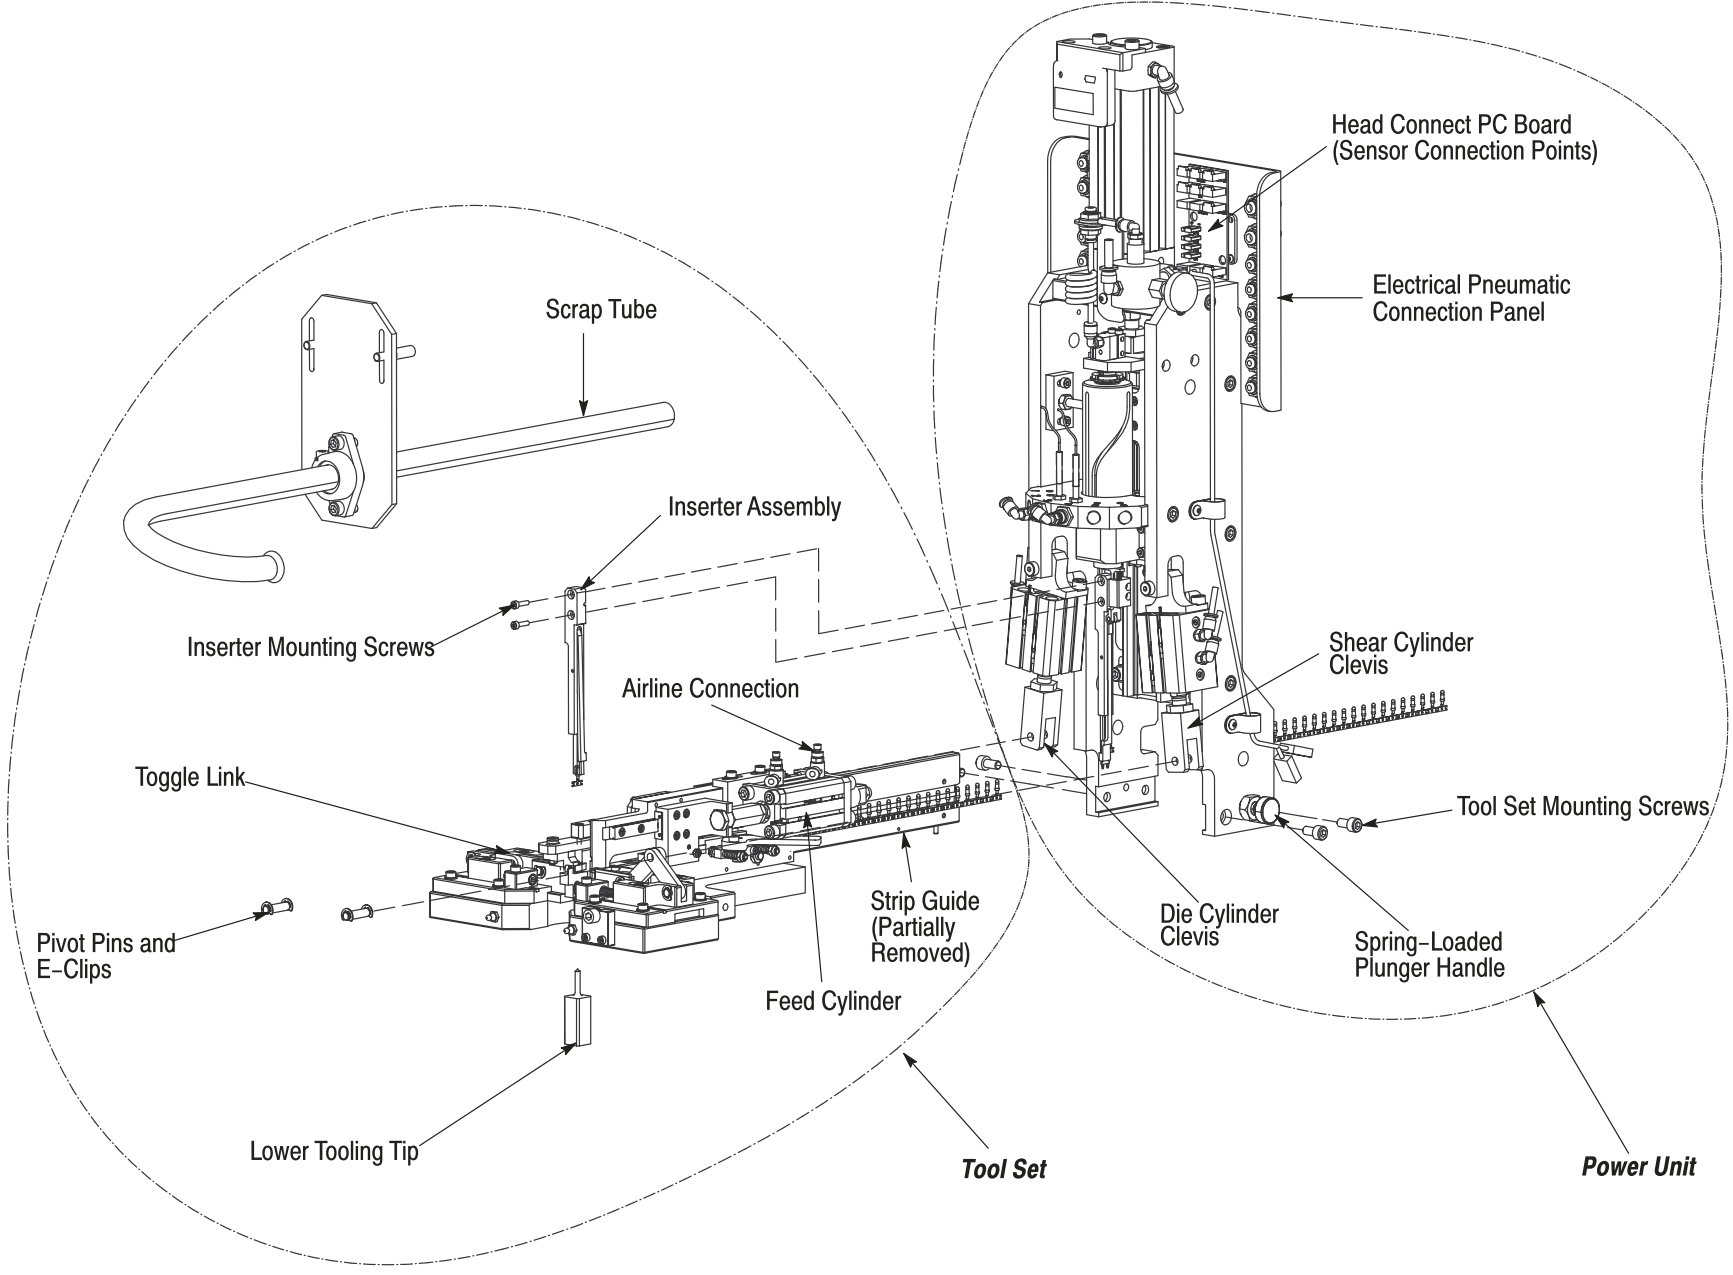

Figure 6
3.2. Installing Tool Set onto Power Unit (See Figure 6)
3. Remove the two e-clips and two pivot pins from the center of the toggle links shown in Figure 6. DO NOT remove the other pivot pins.
Remove the tool set from the power unit in the opposite way that it was installed. Refer to Figure 6, and proceed as follows: